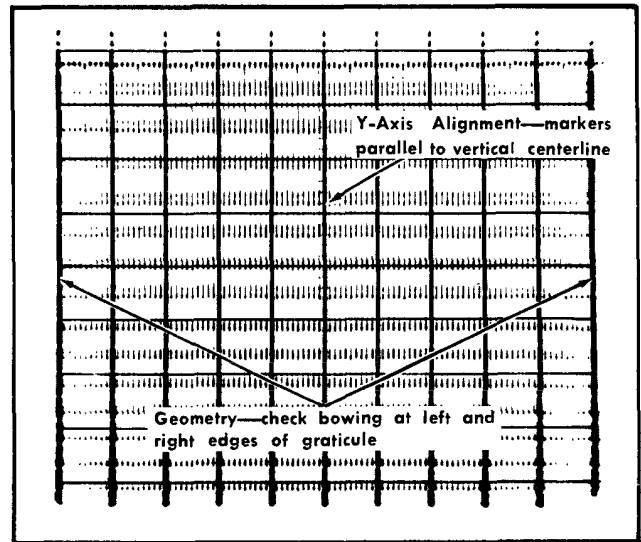

Fig. 5-1. Typical CRT display showing good geometry and Y-axis alignment.
- CHECK—CRT display for less than 0.1 division bowing of the markers at the left and right edges of the graticule (see Fig. 5-1).